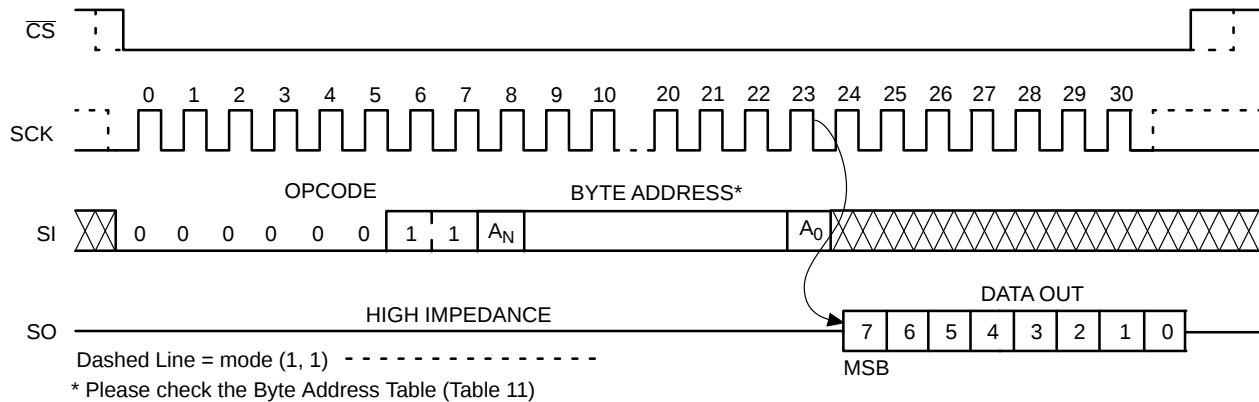

Figure 8. READ Timing
After receiving the last address bit, the NV25xxx will respond by shifting out data on the SO pin (as shown in Figure 8). Sequentially stored data can be read out by simply continuing to run the clock. The internal address pointer is automatically incremented to the next higher address as data is shifted out. After reaching the highest memory address, the address counter “rolls over” to the lowest memory address, and the read cycle can be continued indefinitely. The read operation is terminated by taking $\overline{\text{CS}}$ high.
Reading the additional 32-byte Identification Page (IP) is achieved using the same Read command sequence as used for Read from main memory array (Figure 8). **The IPL bit from the Status Register must be set (IPL = 1) before attempting to read from the IP.** The [A4:A0] are the address significant bits that point to the data byte shifted out on the SO pin. If the CS continues to be held low, the internal address register defined by [A4:A0] bits is automatically incremented and the next data byte from the IP is shifted out. The byte address must not exceed the 32-byte page boundary.